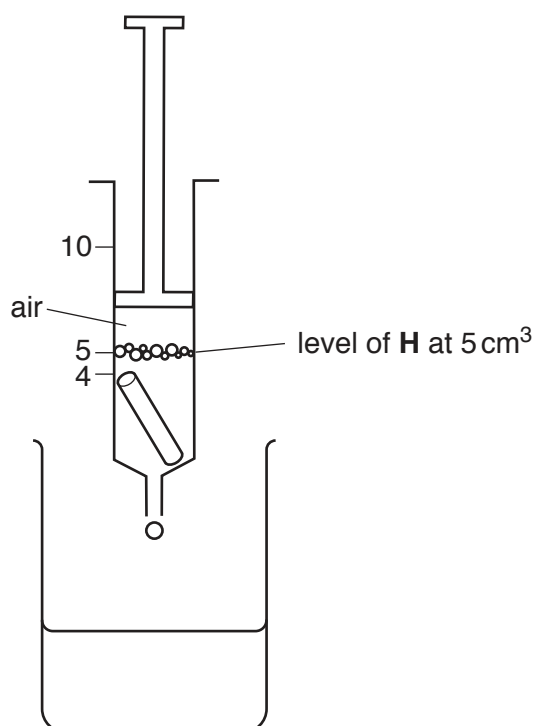

Fig. 1.7
10. Hold the syringe above the beaker containing **H** and push the plunger to adjust the level of **H** to the 5cm^3 mark in the syringe, as shown in Fig. 1.7.